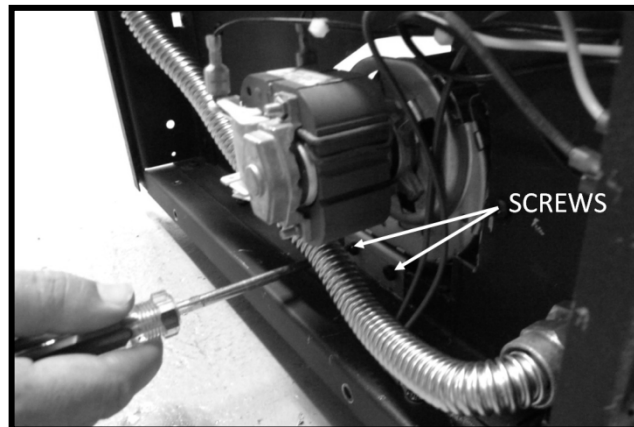

Figure 27: Fan Instal/Removal
2. Insert both screws into the fan access panel to attach the fan to the unit, as in Figure 27.
3. Remove the two (2) screws from the panel as shown in Figure 27 and pull the fan out of unit. You will have to disconnect the wires from the fan before you can remove it completely.